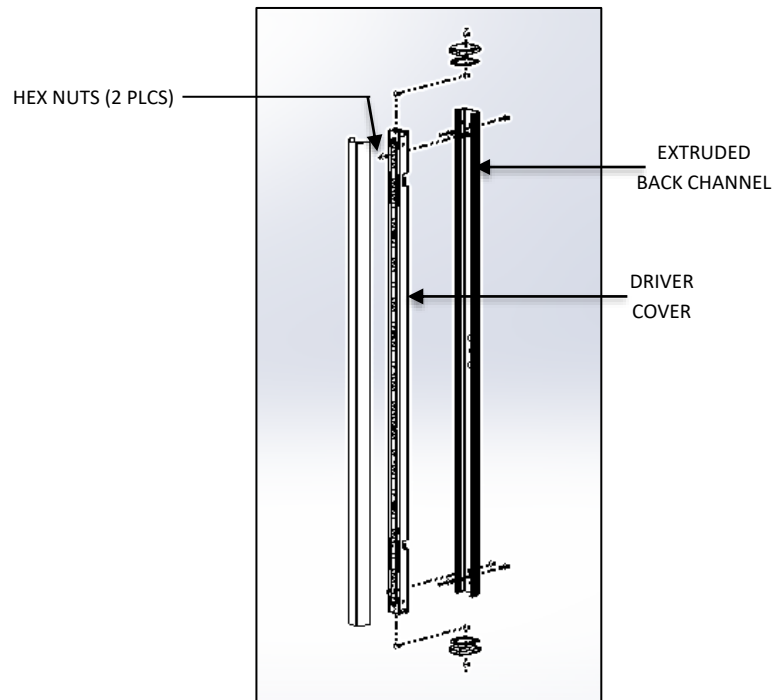

FIG.7 – DRIVER COVER DISASSEMBLY
3. Unscrew the two #8-32 HEX NUTS and remove the DRIVER COVER from the EXTRUDED BACK CHANNEL. Be careful not to damage LED ARRAY as shown in FIG. 7.